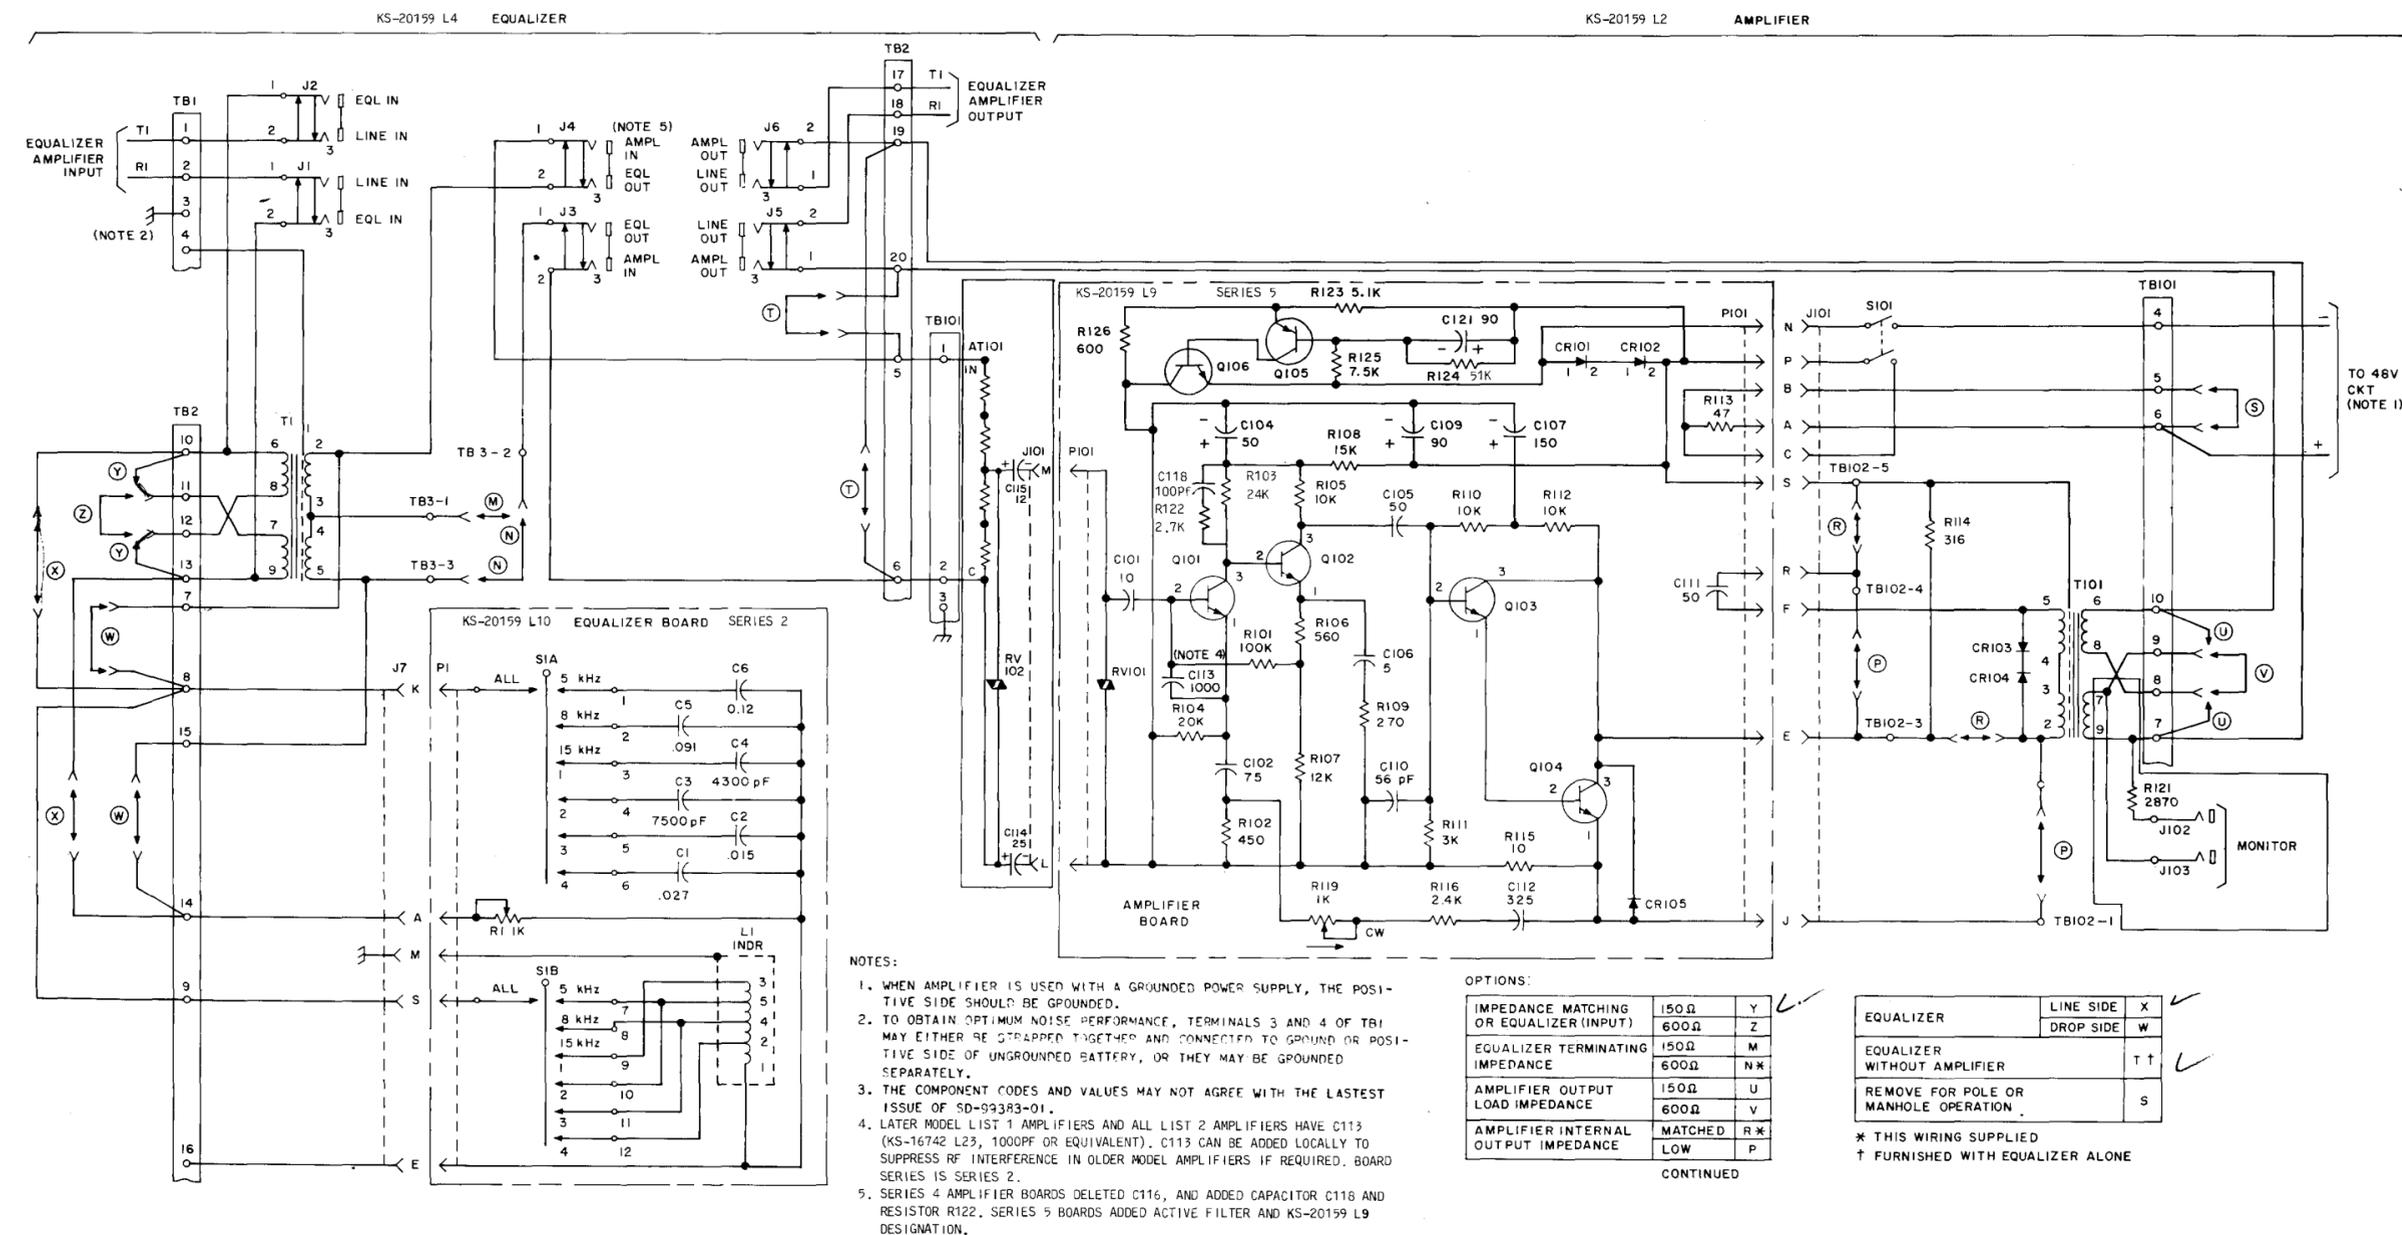
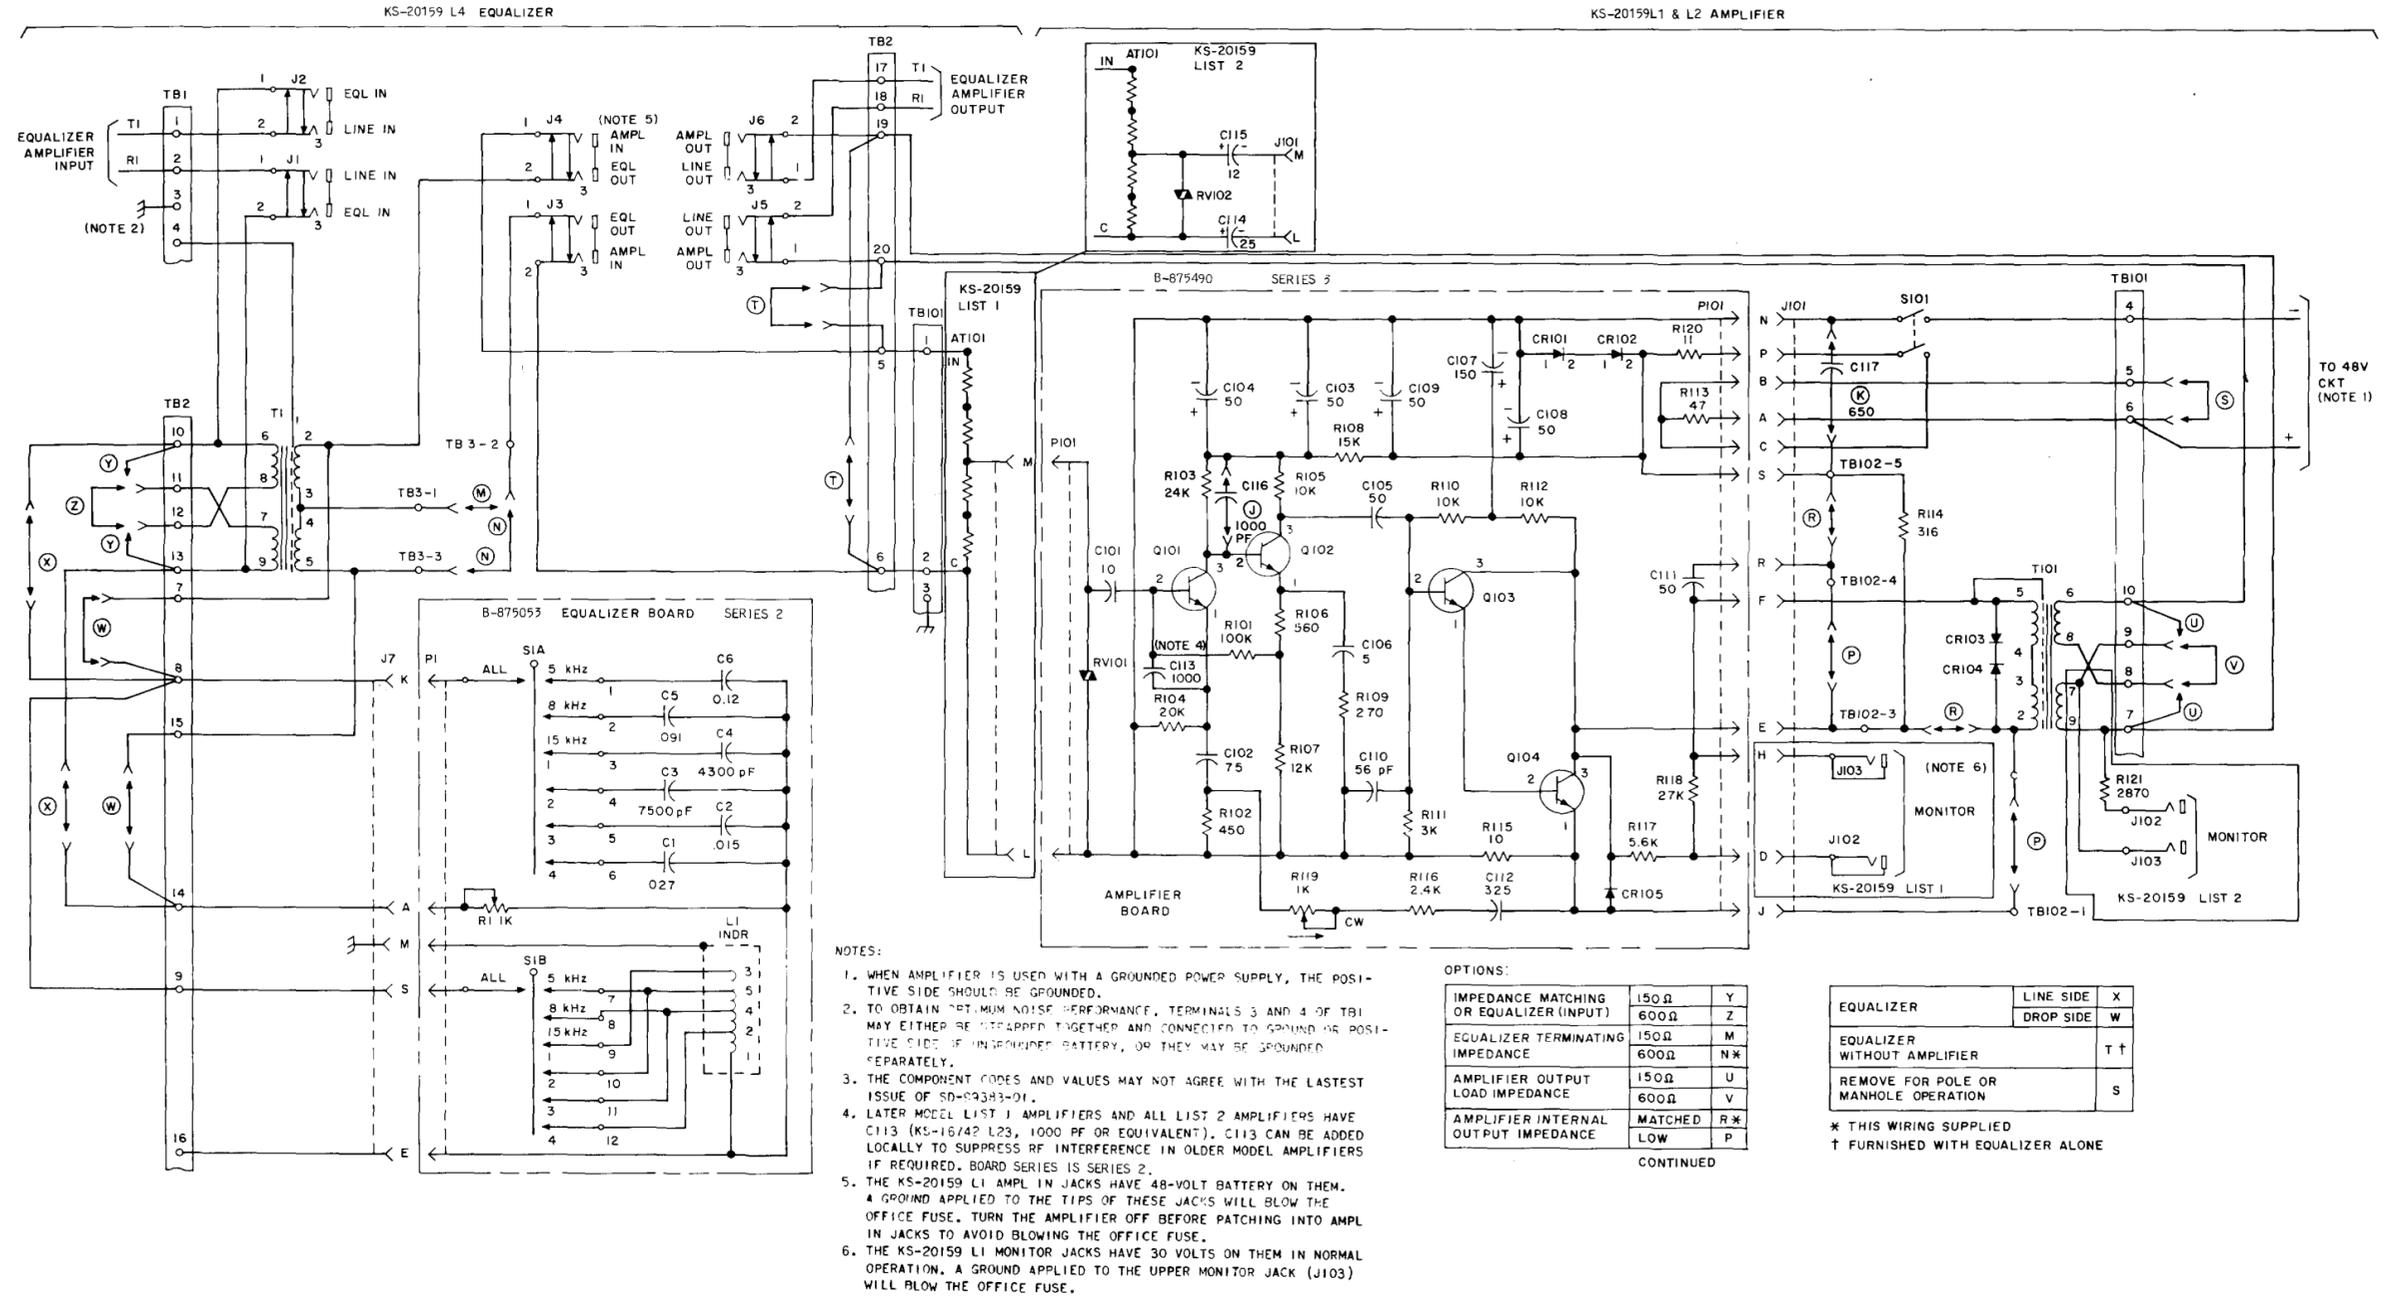

Fig. 3—KS-20159 L1 (Mfr Disc.) & L2 Equalizer-Amplifier, Schematic Diagram
Fig. 4—KS-20159 L2 Equalizer—Amplifier Schematic Diagram
- (3) To add Fig. 4
- (4) To add the KS-20159 L9 amplifier board which incorporates an active power filter
- (5) To revise 2.03 and 2.04
- (6) To rate the KS-20159 L6 power supply Mfr Disc.
- (7) To add the KS-20159 L8 power supply
- (8) To add the KS-20159 L10 equalizer board.
2.01 The equalizer circuit shown in Fig. 3 and 4 is essentially an adjustable RCL circuit which may be strapped across either the line or drop side of the transformer T1. The RCL circuit in Fig. 4
2.03 The amplifier circuits shown in Fig. 3 and 4 each contain two gain controls, a 3-stage transistor amplifier, an output transformer, and a twin jack for headphone monitoring. In Fig. 4, the KS-20159 L9 3-stage transistor amplifier contains an active filter to reduce the effects of battery noise. The input transformer for the amplifier is contained in the equalizer portion of the circuit where it also serves as a line repeating coil.